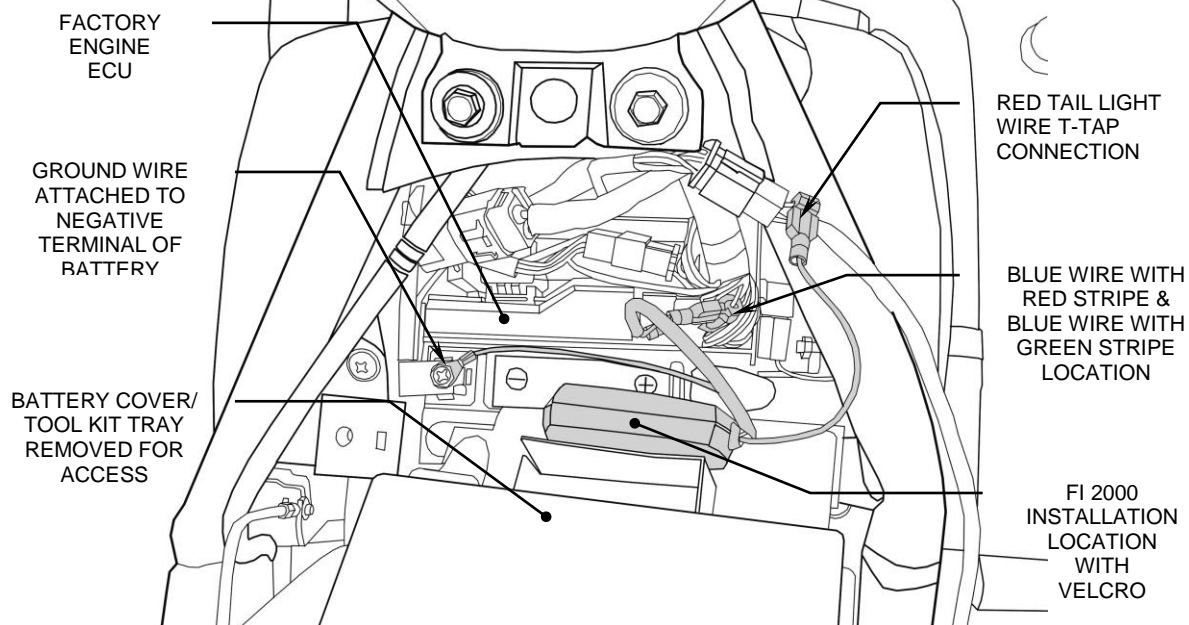

FIGURE 1: Fi2000 ECU AND T-TAP CONNECTION LOCATION
2. Locate the red wire on the taillight wire loom, this harness runs down the right side of the motorcycle on the right side under the seat, see Figure 1. Attach a T-tap connector onto this wire where it is exposed behind the female connector.
3. Locate the ECU and find the exposed wires exiting it on the right side. Locate the blue wire with the red stripe, and next to it, the blue wire with the green stripe, where the wires are exposed attach T-tap connectors to each wire, see Figure 1.